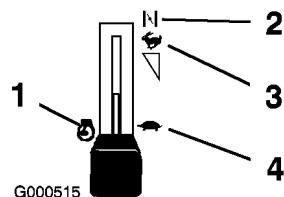

Figure 8
3. Move the throttle lever to Choke before starting a cold engine (Figure 8).
5. After the engine starts, move the throttle lever to Fast (Figure 8). If the engine stalls or hesitates, move the throttle lever back to Choke for a few seconds. Then move the throttle lever to the desired setting. Repeat this as required.
1. Move the throttle lever to Fast (Figure 8).